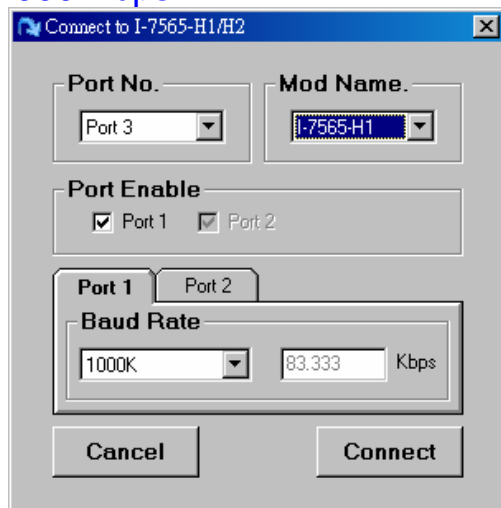

Figure 3-1: Connection Screen of I-7565-H1/H2 Utility
Step2: Run the “I-7565-H1/H2 Utility”, I-7565-H1H2 Utility.exe, and configure the connection parameters and then click “Connect” button to connect to the I-7565-H1 A module like Figure 3-1.